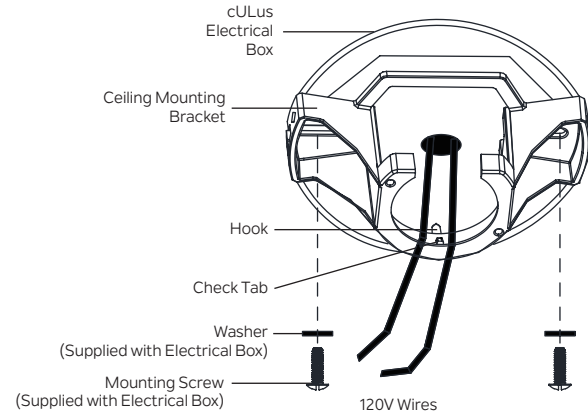

Fig. 5
**Step 1.** Pass the 120-volt supply wires through the center hole in the ceiling mounting bracket as shown in (Fig. 5).
**Step 1.** Pass the 120-volt supply wires through the center hole in the ceiling mounting bracket as shown in **Fig. 5**.